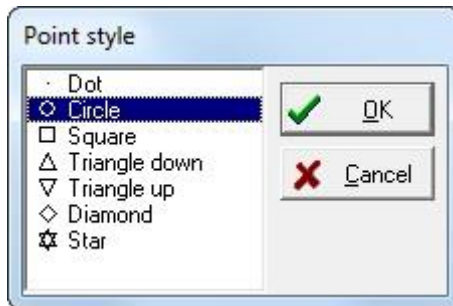

Fig. 45 Point style.
- **Mark** is used to change the look of the data marker style of the DataSet in graph (Fig. 45).